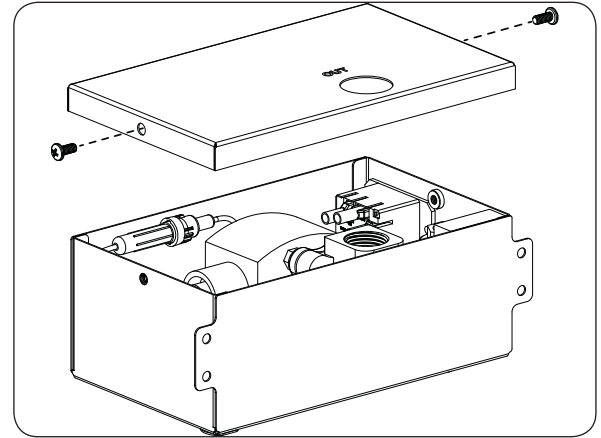

Fig. 47-2 Remove access panel of valve box
4. Use a Phillips screwdriver to remove the access panel of the valve box (see Fig. 47-2).